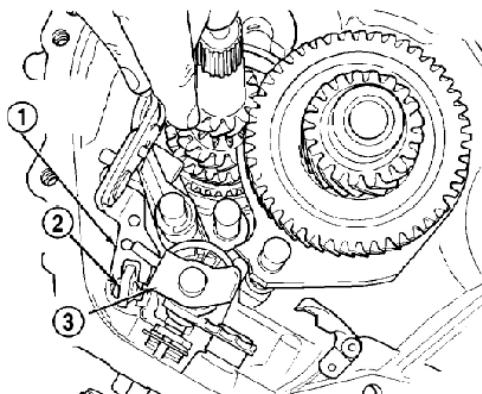
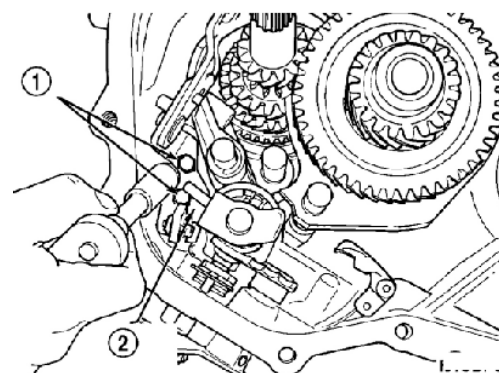

Figure 3-74 Reverse shift fork support
Figure 3-75 Reverse shift fork bolt
(18) Assemble the reverse shift fork support and reverse locking device and screw down bolts at tightening torque 11 Nm (96 in. lbs.) (Figure 3-74) and Figure 3-75).